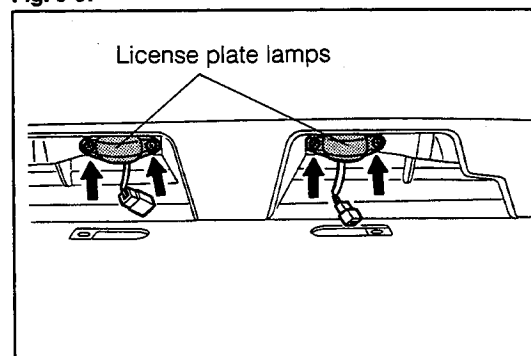

Fig. 9-38
- 2. Install the license plate lamps assembly to the rear bumper subassembly. (See Fig. 9-38.)